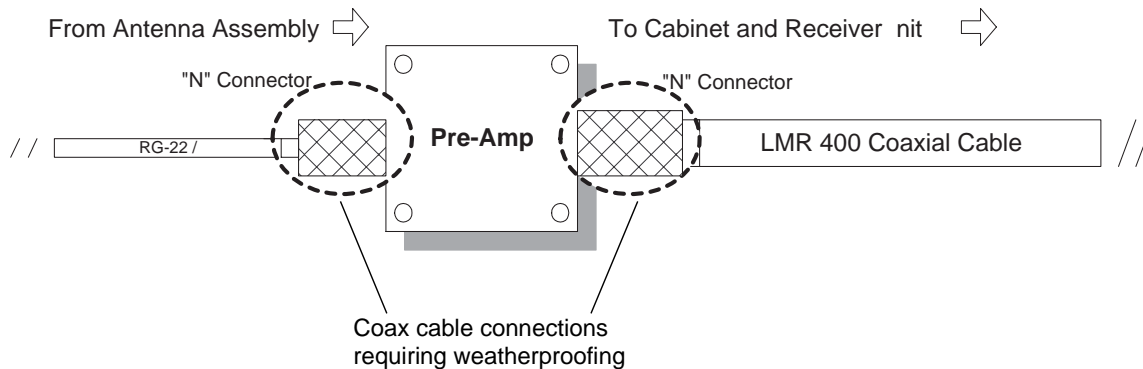

Figure 13. Weatherproofing Coax Cable Connections
- 4 Properly weatherproof both pre-amp connections and any other external coax cable connections as shown in Figure 13.